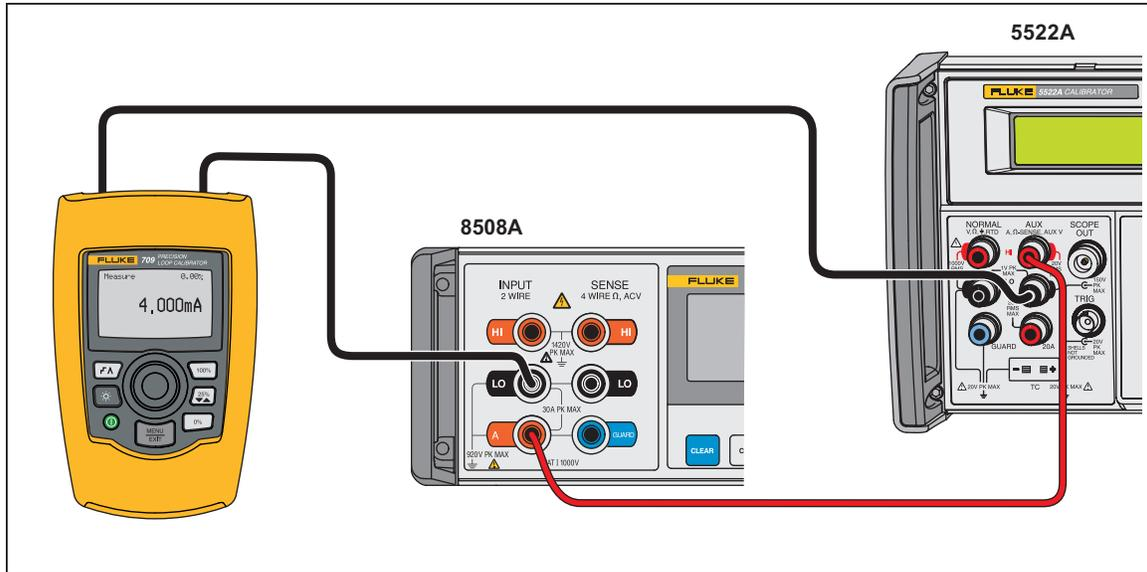

Figure 3. DC Current Measurement Verification Connections
- c. Connect a test lead from the DMM LO input to the Product + terminal. See Figure 3.